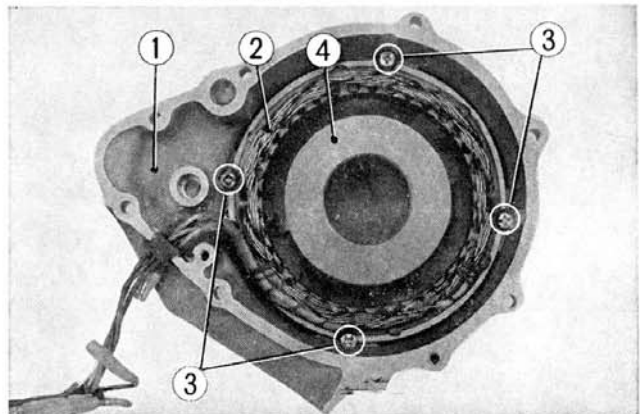

Fig. 8-6 ① Dynamo cover ② Stator coil ③ 6mm cross screws ④ Field coil
2. Remove the stator coil from the dynamo cover by unscrewing the four 6mm bolts (Fig. 8-6).